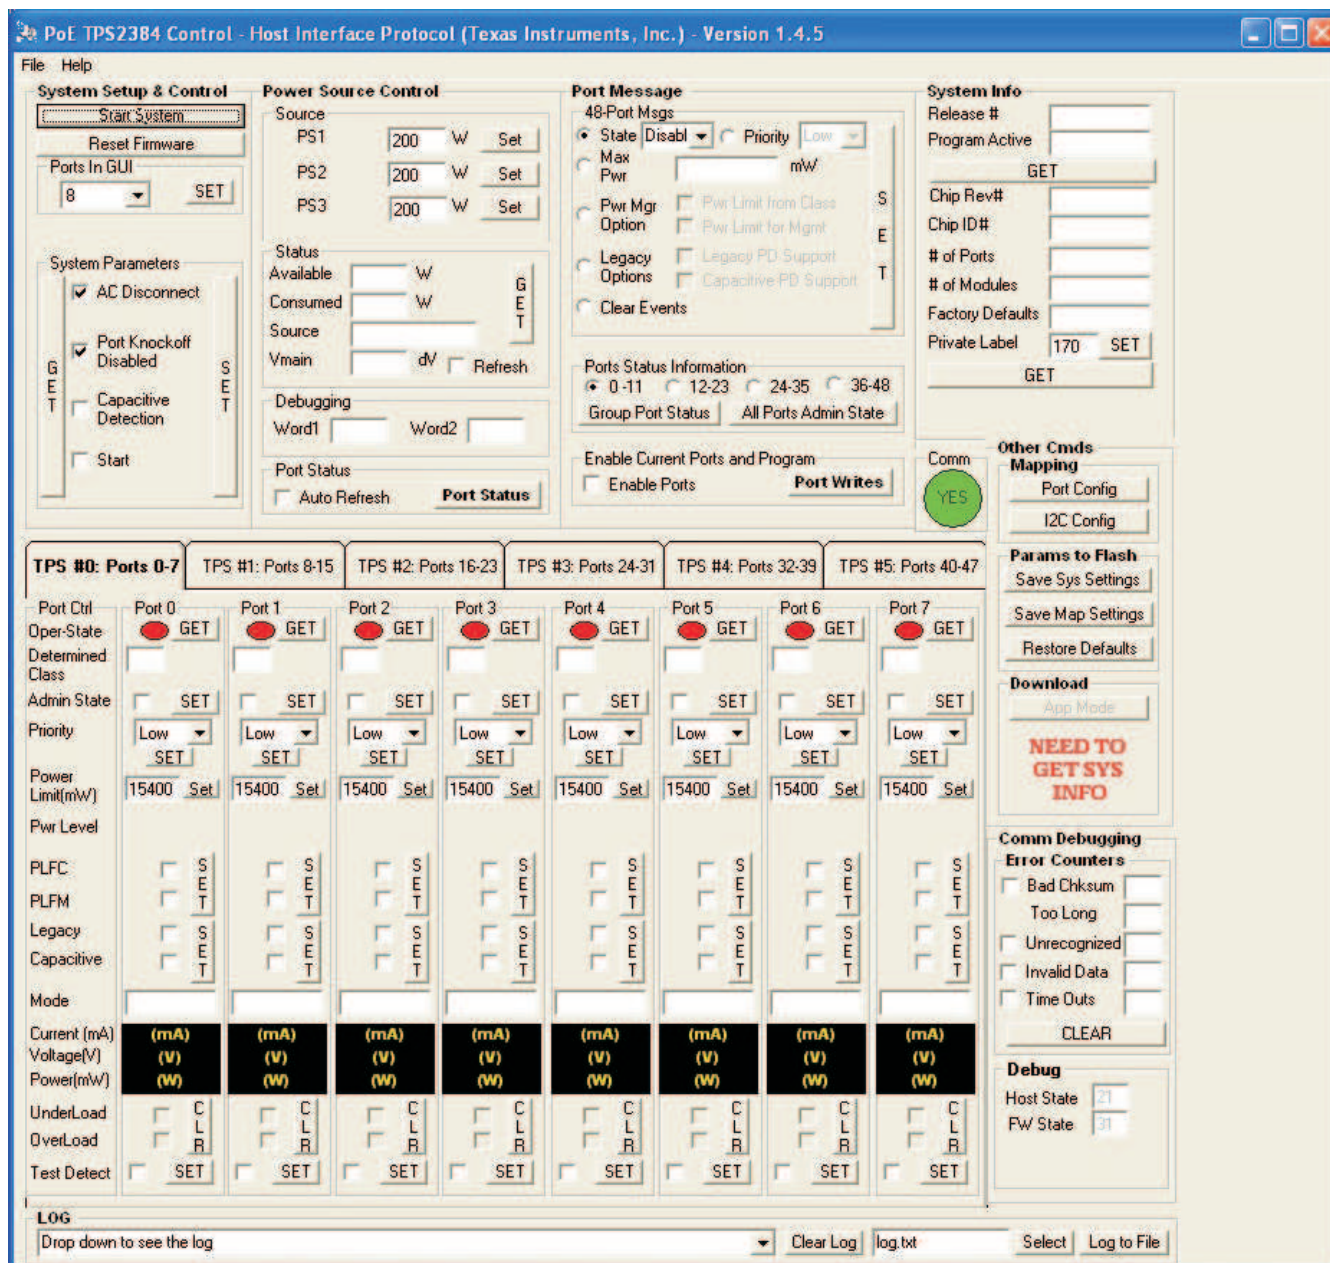

Figure 1. TPS23841 GUI Initial Screen After Launch
Start the GUI on the host PC by running the supplied .exe file. A screen similar to that shown in Figure 1 should be obtained. Each time started, the GUI must determine which version of the protocol is running on the target system. This is done by selecting the Detect Protocol Version function from the File pull-down menu. Subsequently, a quick check of the initial status of the system can be obtained by clicking on the Port Status button above the various TPS #n screen tabs. Once the display data update completes, the Mode field of each port should indicate “Initializing”, and the Current(mA), Voltage(V) and Power(mW) fields should all be set to 0.